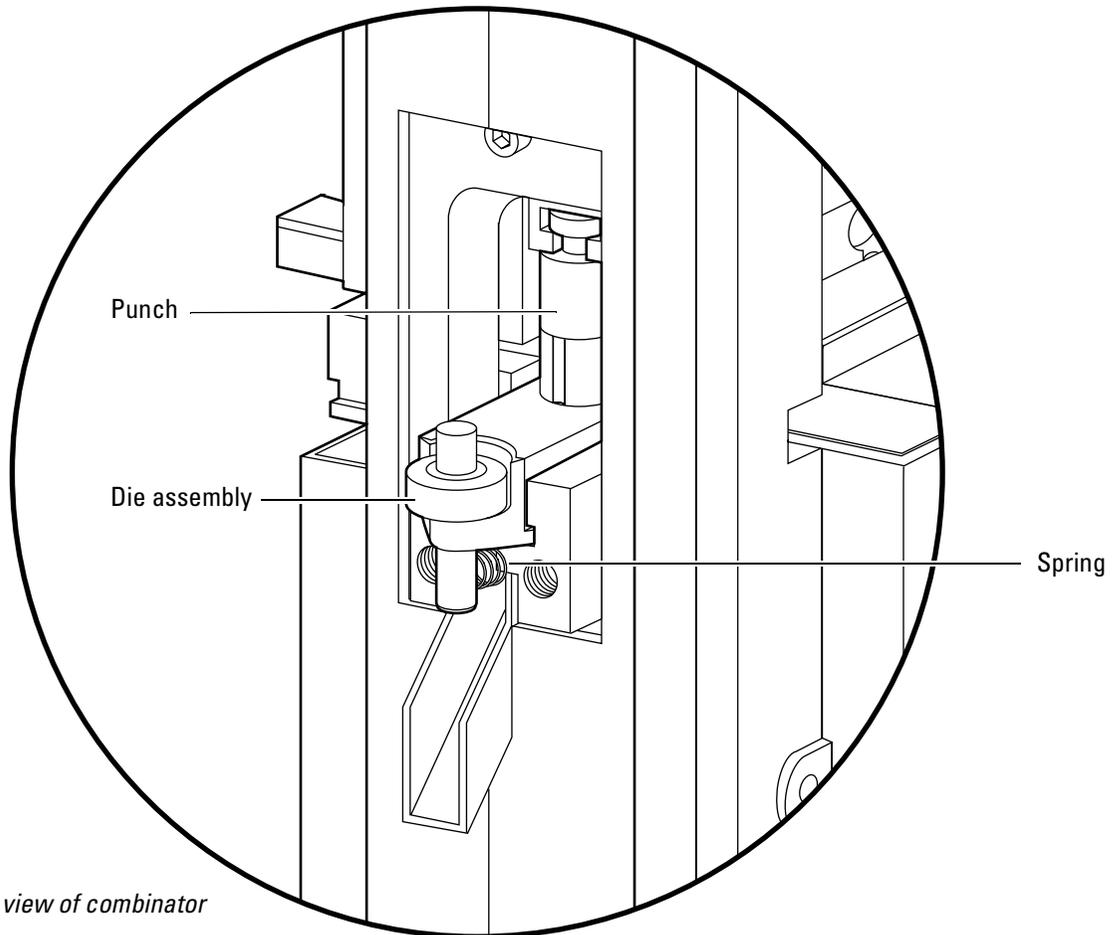

Figure 3.7 Punch and die assembly
3. Remove the punch and die assembly. See Figure 3.7.